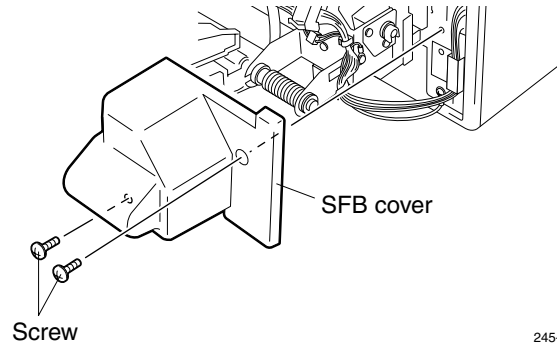

Fig. 6-1
1. Remove SFB cover. (See Fig. 6-1)
1. Remove SFB hinge unit. (See Fig. 6-1 to 6-4)